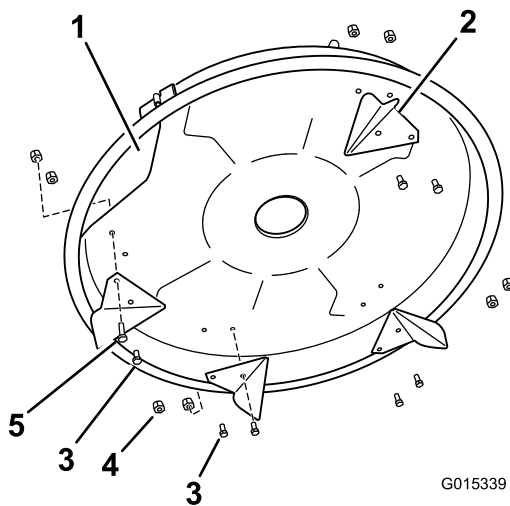

Figure 2
1. Align the three kicker plates as shown in Figure 2.
2. Secure the plates to the mower using seven bolts (5/16 x 3/4 inch), one bolt (5/16 x 1-1/4 inches) and eight lock nuts (5/16 inch). Make sure the one longer bolt is used in the hold nearest to the discharge opening in the deck to accommodate the mulch cover in a later step (Figure 2).